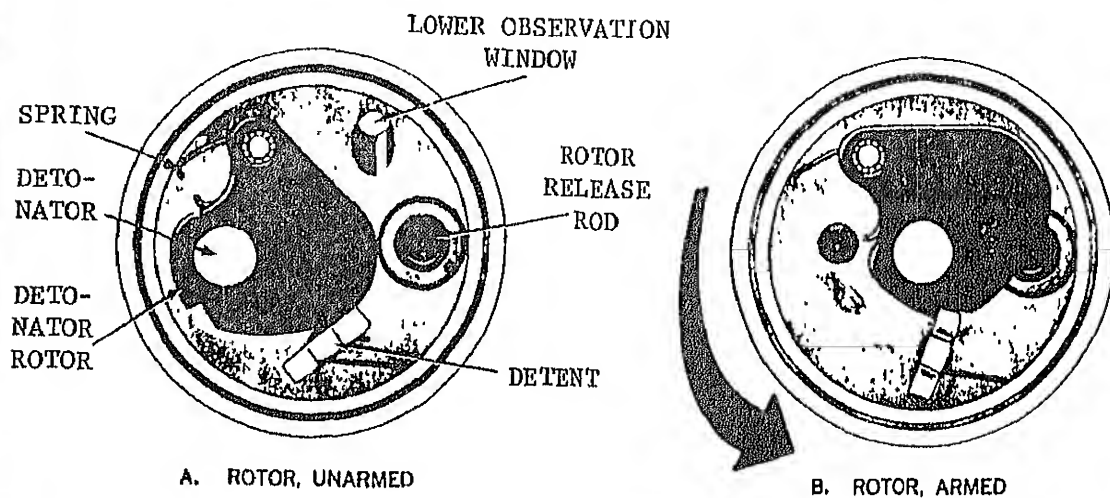

Figure 3.--View from booster end of fuze.
armed	47. The second stage of arming is accomplished by the rotor release rod and the detonator rotor. The figure 3 shows how the detonator rotor, which contains the relay, is held out of alignment with the firing train.
48. Study figure 3 carefully during the following explanation.